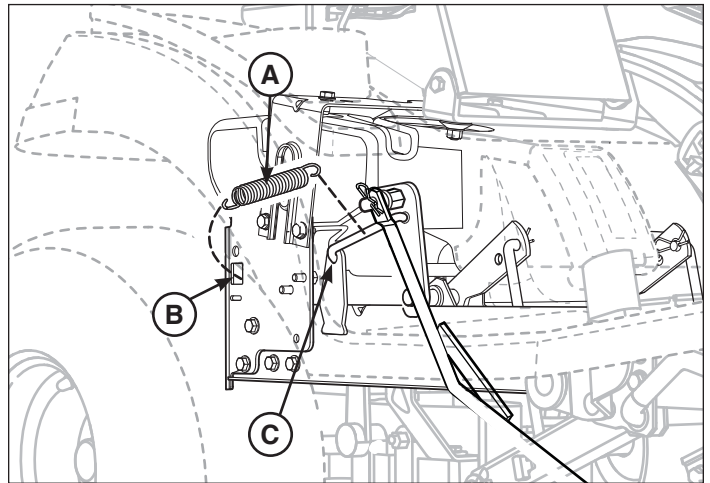

Figure 13
4. Install the extension spring (A, Figure 13) into square hole (B) at the rear edge of the tractor frame.
5. Secure the other end of extension spring to the “C” lift rod (C) on the mower deck lift arm.